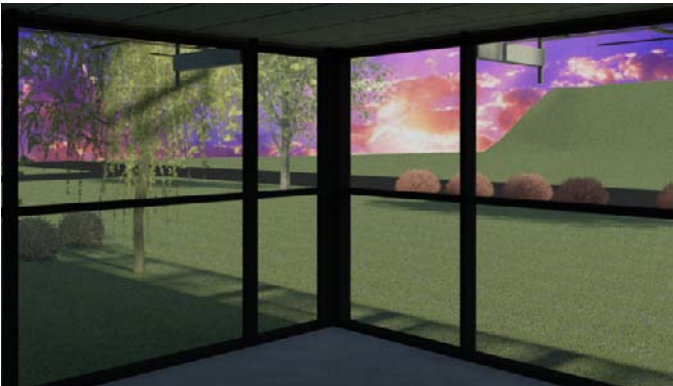

Figure 9.22
**Image** The last option is to specify an image. You will need to select a .bmp, .jpg, .png, or .tiff file. After selecting the image, you will be able to adjust the image scale and the offset. Figure 9.22 shows a rendering using an image of a sky background.